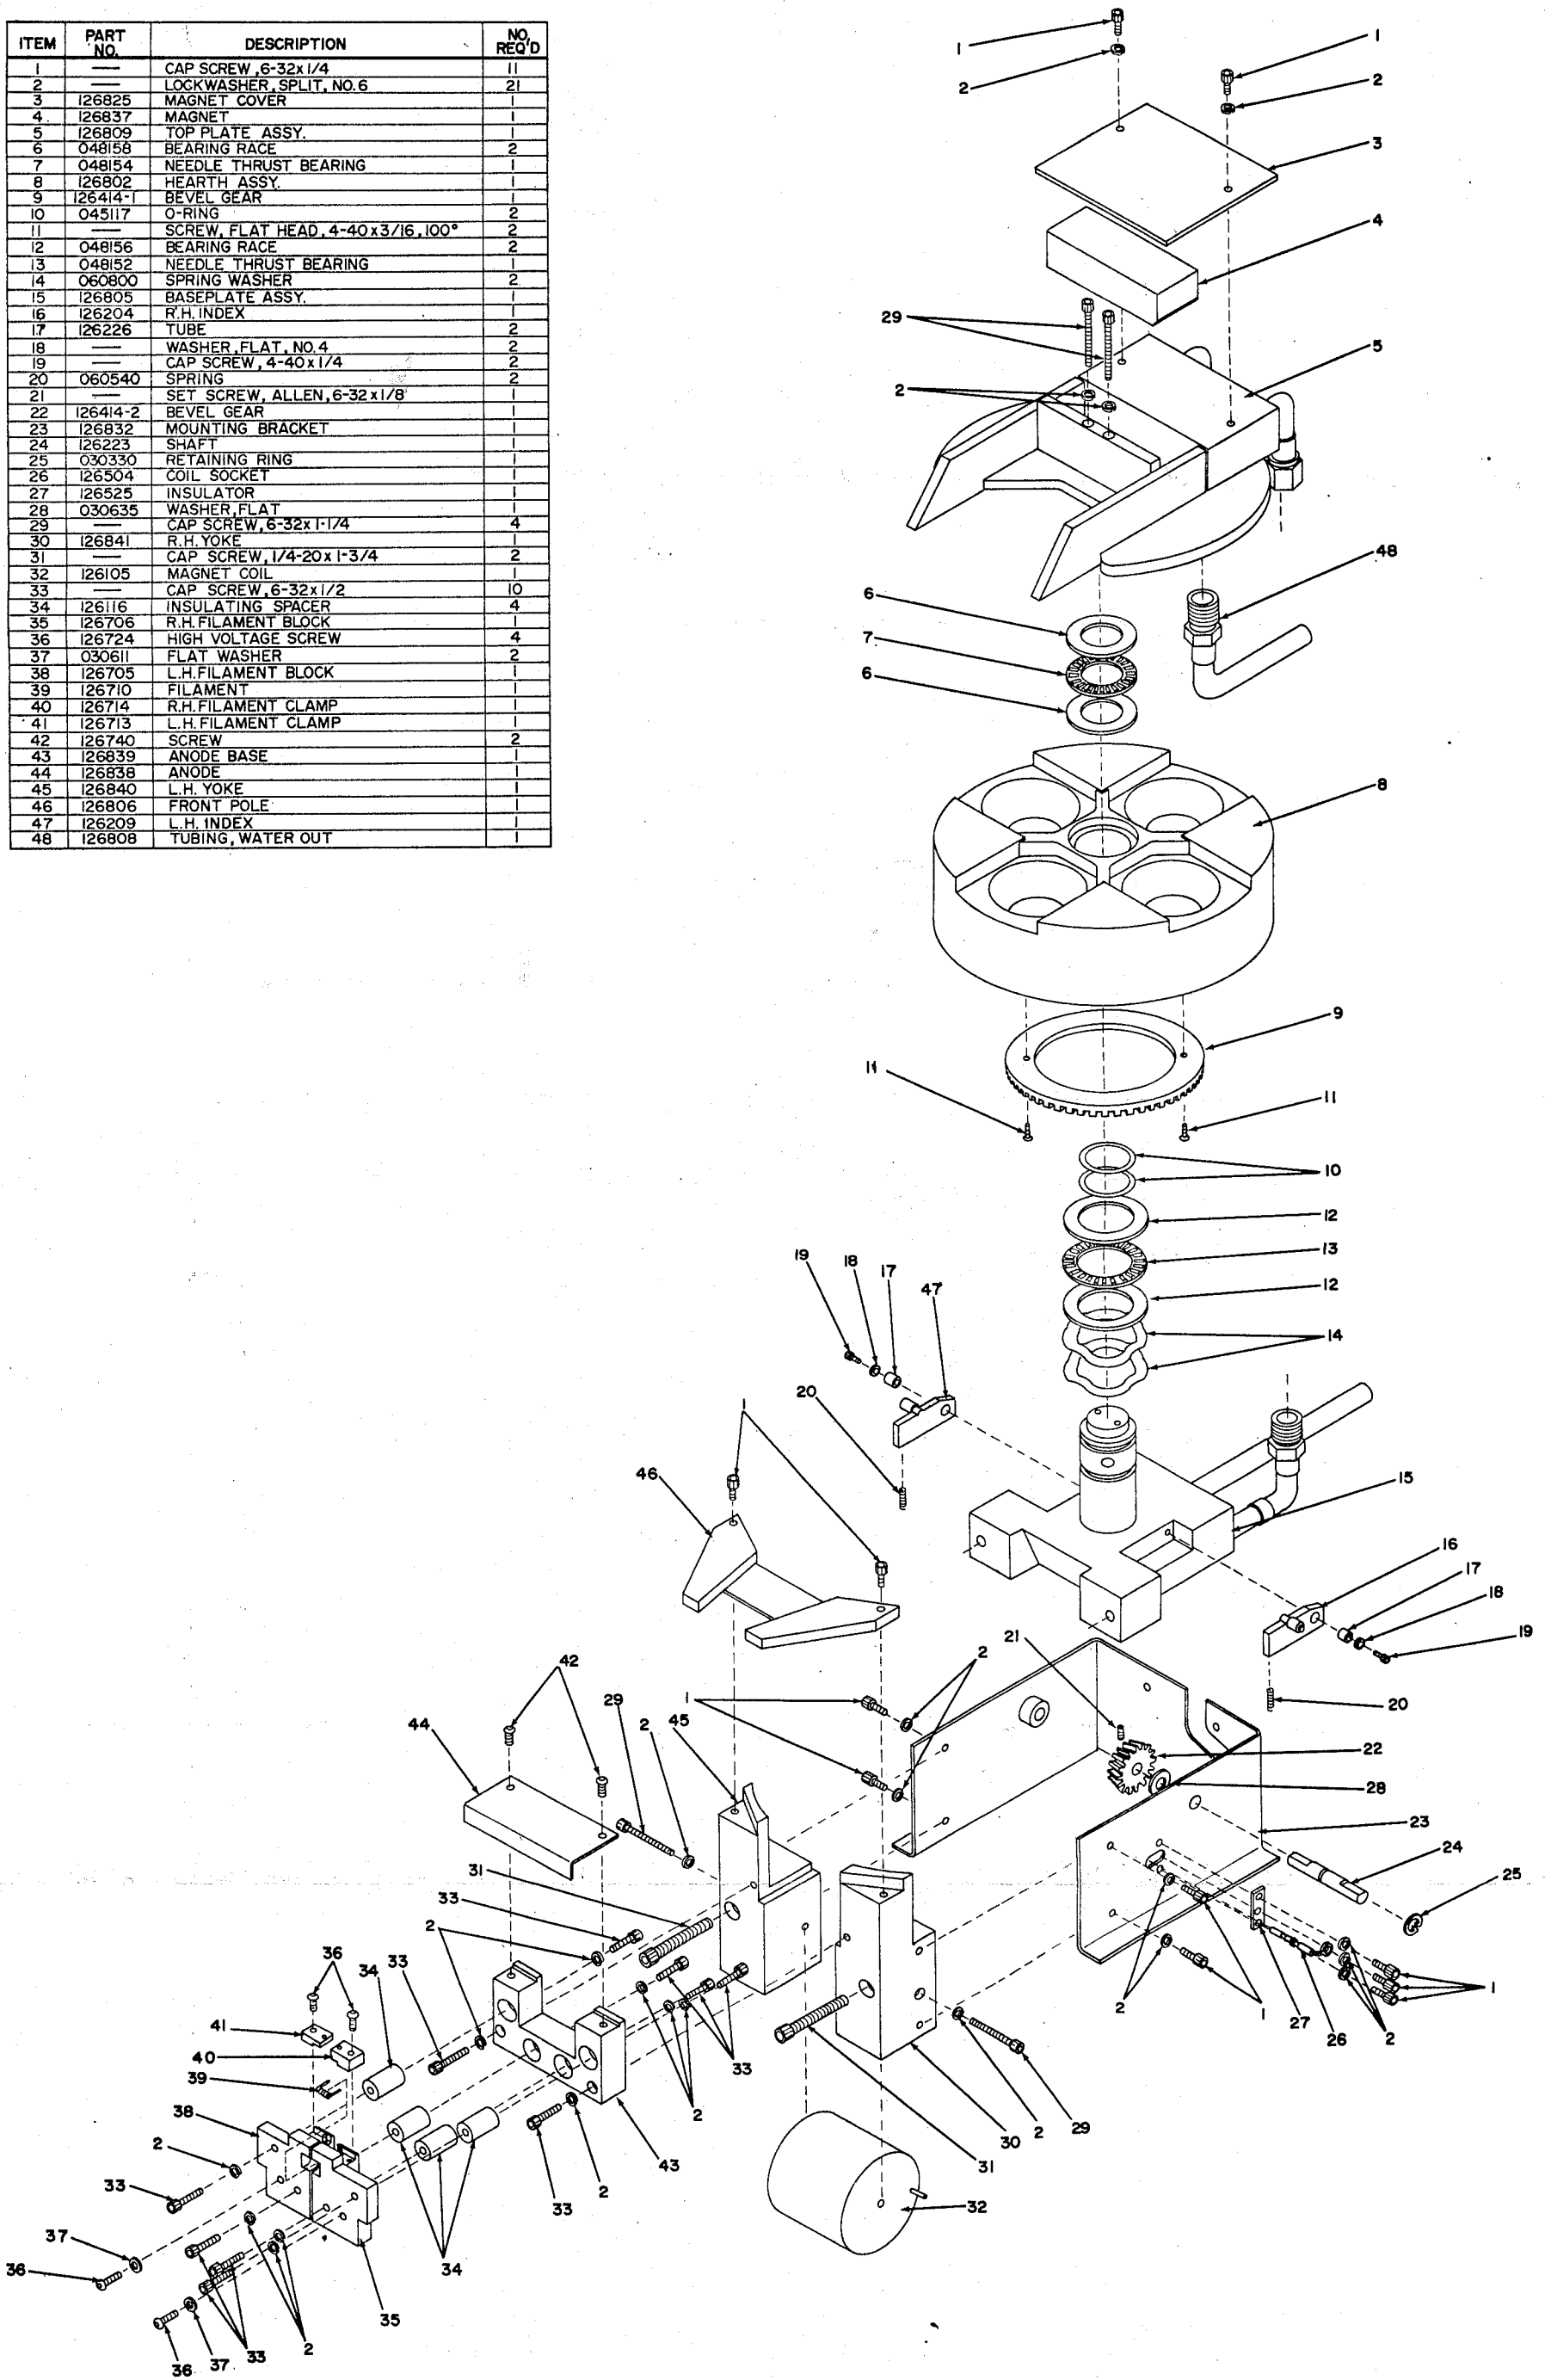

Figure 5-1. Exploded View and Parts List of Sloan Multihearth Electron Beam Gun -- 2700 Bent Beam.
Figure 5-1 is an exploded view of the 270° gun and identifies all replaceable parts of the gun as an aid to maintenance.
- (3) Remove the evaporant buildup from the pole pieces when it loosens, to avoid contamination of the melt.
- (4) After twenty hours of operation, inspect the insulating spacers (p/n 126116, items (34) Figure 5-1) and the high-voltage feed-through for build-up of conductive films. Change the spacers if they are coated over more than 50% of their total length. (Four spare spacers are provided with the gun initially.) This is particularly important when metals are being deposited.
- (5) Clean the hearth thoroughly with a scraper and small wire brush after every ten to twenty operating hours. Clean evaporant residue from bell jar, tooling, and chamber, and clean all loose material from the base plate.
- (6) Always clean the hearth thoroughly when changing evaporants.
- (7) If the hearth assembly is removed for any reason, replace the main O-rings (p/n 045117, Viton), coating them lightly with a good vacuum lubricant such as Apiezon "L". TURN OFF THE WATER BEFORE DISASSEMBLY.
- (8) If the permanent magnet mounted beneath the top cover is removed for any reason, verify that it is replaced in the correct orientation. THE BEVELED EDGE OF THE MAGNET MUST FIT OVER THE PIN IN THE MAGNET HOUSING. See Figure 5-1, Item 4. If the magnet is not correctly installed, the top cover cannot be properly fitted. If the gun is operated with the magnet in the wrong orientation, the electron beam will bombard the chamber walls or the fixturing in front of the gun.
- (9) In the event of accidental damage to the permanent magnet such as a chip or crack, replace it with a new magnet available from Sloan Technology Corporation. New magnets are furnished with
Two methods for filament replacement are outlined below. The first provides filament replacement only, while the second allows inspection and replacement of insulating spacers as well. Refer to Figure 5-1 for identification of all gun parts.
A. Simple Filament Replacement Only (See Figures 5-1 and 5-2)
- (11) Tighten the filament screws to clamp the filament in position, making sure that there is a minimum of 0.005" clearance between the filament turns and the inner edge of the filament block directly in front of the filament. When properly located, the gap between the two middle turns of the filament should be immediately below the gap between the filament blocks.
- (12) Install the anode on the anode base. Be sure to push it snugly against the shoulder of the recess in the base before tightening the anode screws. This will ensure the proper clearance of $0.055" \pm 0.005"$ between the anode and the filament blocks.
- (13) Install the anode-cathode assembly on the gun and tighten screws #33.
- (14) Replace the high voltage leads and tighten the screws firmly.
- (15) Replace high-voltage shielding.
- B. Filament Replacement, Inspection, and Insulating Spacer Replacement (See Figures 5-1 and 5-2). If only filament replacement and insulator inspection is required, Steps 7 through 11 may be omitted.
- (1) Remove high-voltage shielding.
- (2) Disconnect the high-voltage leads from the filament blocks by loosening screws #36 (Figure 5-1).
- (3) Loosen two anode base mounting screws (#33) and remove the anode-cathode assembly.
- (4) Remove the two anode screws (#42) and the anode (#44).
- (5) Remove the filament screws and the filament clamps.
- (6) Remove the filament.
- (7) Remove the four screws on the back of the anode base and the four screws on the front of the two filament blocks and carefully separate the two filament blocks, four insulating spacers, and the anode base. Do not allow the two mounting screws (#33) to fall out of the anode base, as they cannot be replaced with the filament blocks installed.
- (8) Clean or replace the insulating spacers. They can be cleaned by glass-bead blasting or scrubbing with a mild abrasive household cleaner, followed by a thorough washing and drying. When handling new or freshly cleaned spacers, always use clean gloves.
- (9) Carefully place the clean spacers in the recesses in the filament blocks and loosely install the four screws from the front of the filament blocks.
- (10) Make certain the two mounting screws (#33) are in place in the anode base. Place the spacers in the recesses in the anode base and loosely install the four screws from the back of the anode base.
- (11) Align the filament blocks so that the lips of each block at the filament recess are parallel and in line with one another, and set the gap between them at a uniform width of 0.010 to 0.015 inch (0.03 to 0.04 mm). Tighten all eight spacer screws.
- (12) Lubricate the filament screws with molybdenum disulfide.
To replace the O-rings (See Figure 5-1 and 5-4), proceed as follows: